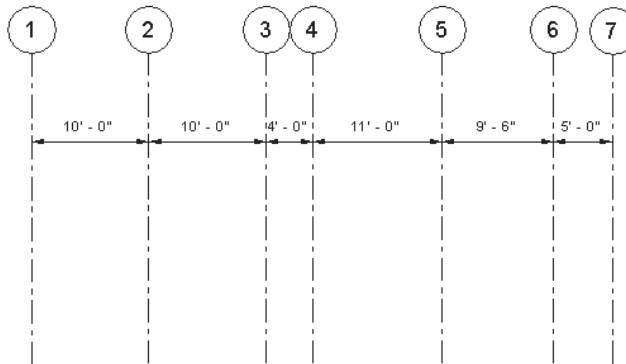

Figure 3-48 Distance between the vertical grid lines
9. Repeat steps 5 to 8 to create five more vertical grids with the distance specified in Figure 3-48.